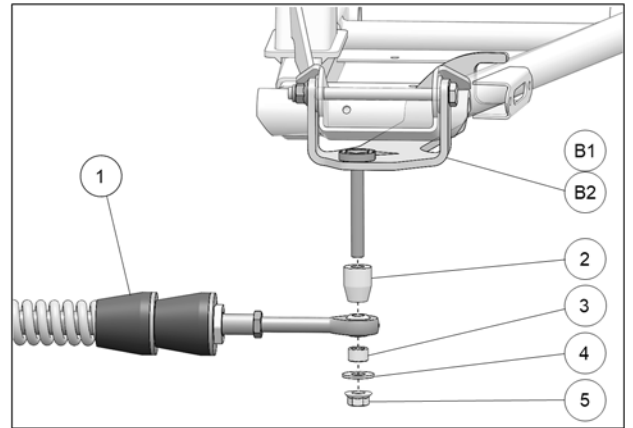

Fig. 13
12. Attach stabilizing rod (1) to anchor bracket (B1-B2), using long spacer bushing (2), short spacer bushing (3), washer (4), and nut (5). Torque to 70 N•m [52 lb•ft]. See Fig. 13